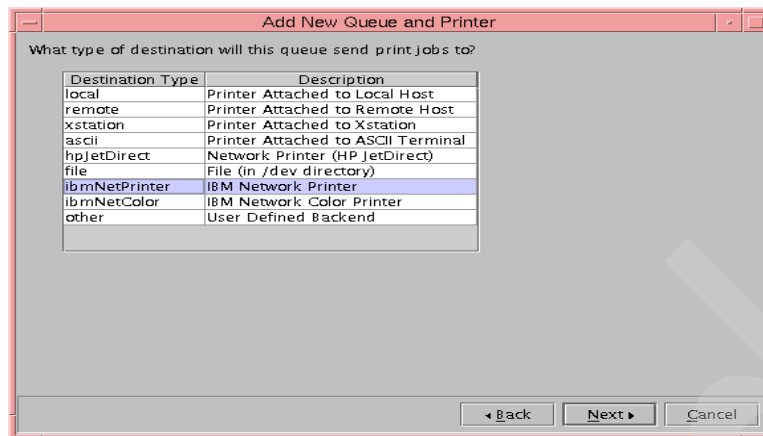

Figure 83. IBM Network Printer attachment type
3. In this example, we defined an IBM Network Printer 12 with a queue name of **aix4312** and clicked **Next**. The panel in Figure 83 on page 306 was displayed.